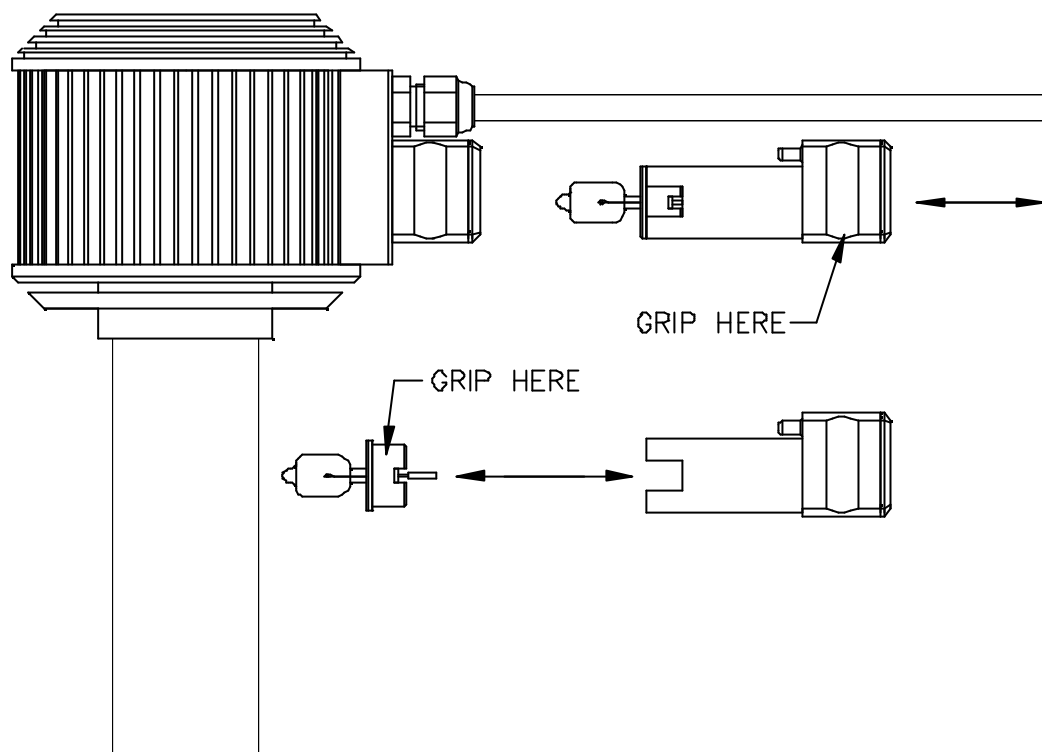

Figure 11 Changing the main lamp
2. To replace the lamp, first grip the rectangular block located beneath the cable gland at the back of the lamphouse. Pull the block outwards from the long rectangular block to reveal the lamp assembly. Refer to figure 11.
3. Grip the lamp holder at the sides where the rectangular cutout is located, and pull the lamp out. Do not attempt to pull the lamp out by gripping the glass capsule. Refer to figure 11.